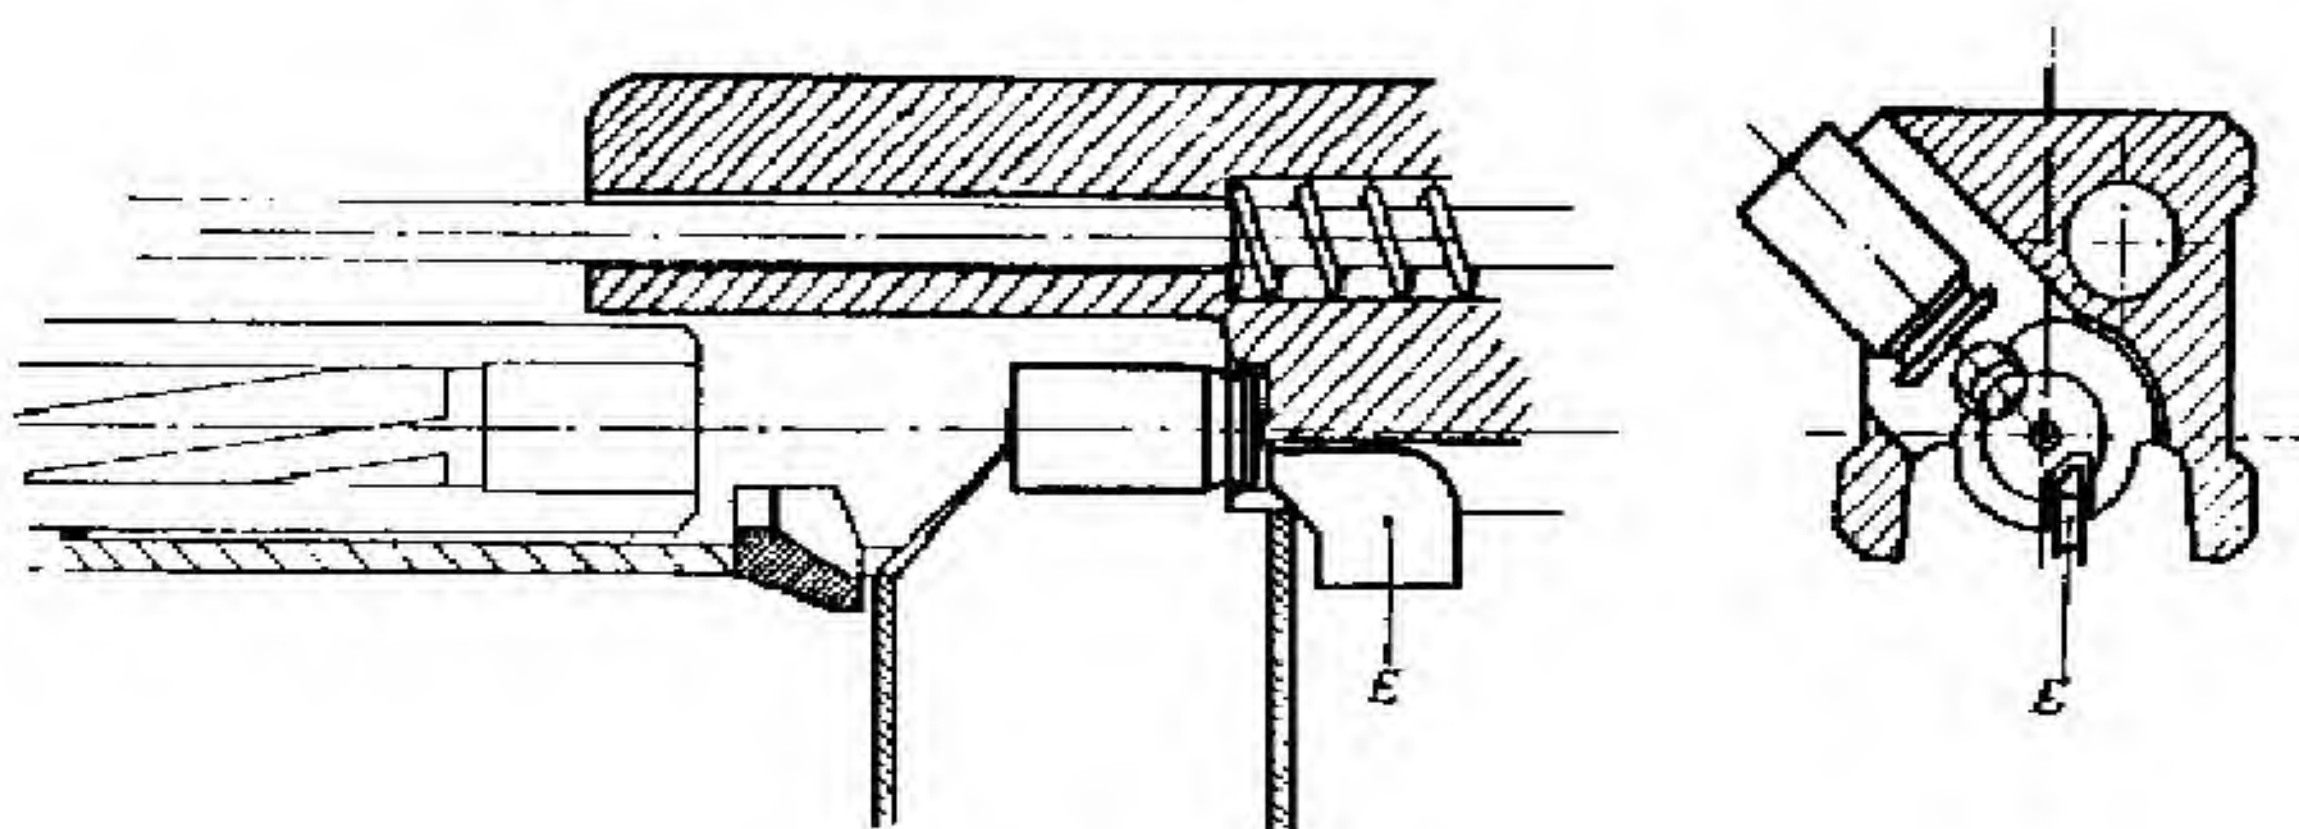

Fig. 8.
When the recess in the breech-block arrives at the level of the rear face of the ejection opening, the case contacts the ejector (E), which projects into the recess and pivots the case round the extractor and ejects it. (fig. 8).